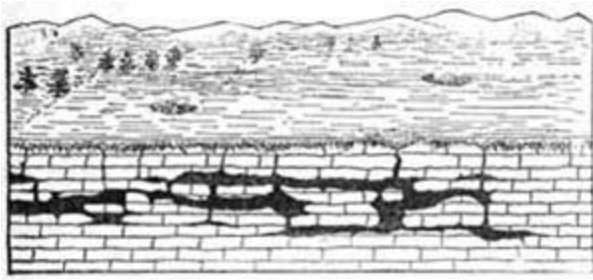

FIG. 30.—Showing how caves and holes are formed by the solvent action of water.
65. Destructive Action of Water. The action of water in stream and sea, in springs and wells, is evident to all; but the activity of ground water—that is, rain water which sinks into the soil and remains there—is little known in general. The real activity of ground water is due to its great solvent power; every time we put sugar into tea or soap into water we are using water as a solvent. When rain falls, it dissolves substances floating in the atmosphere, and when it sinks into the ground and becomes ground water, it dissolves material out of the rock which it encounters (Fig. 30). We know that water contains some mineral matter, because kettles in which water is boiled acquire in a short time a crust or coating on the inside. This crust is due to the accumulation in the kettle of mineral matter which was in solution in the water, but which was left behind when the water evaporated. (See Section 25.)
small pores and cavities eaten out by the water, there may develop in long centuries, caves and caverns (Fig. 30). Most rock, like granite, contains several substances, some of which are readily soluble and others of which are not readily soluble; in such rocks a peculiar appearance is presented, due to the rapid disappearance of the soluble substance, and the persistence of the more resistant substance (Fig. 31).